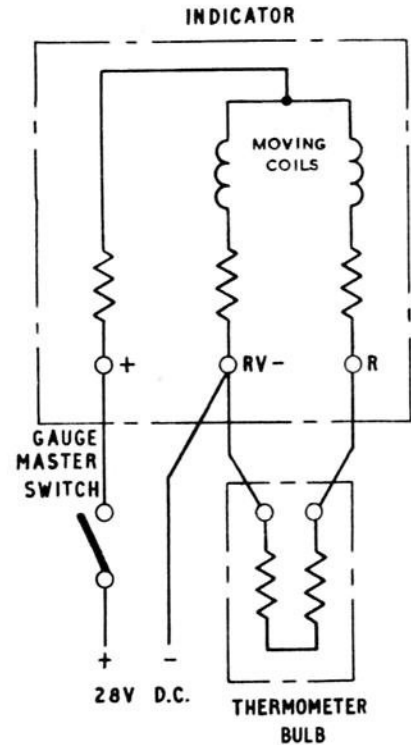

Fig. 2 Circuit diagram
2. The circuit diagram is shown in fig. 2, electrical connection being made via a 3-way terminal block.